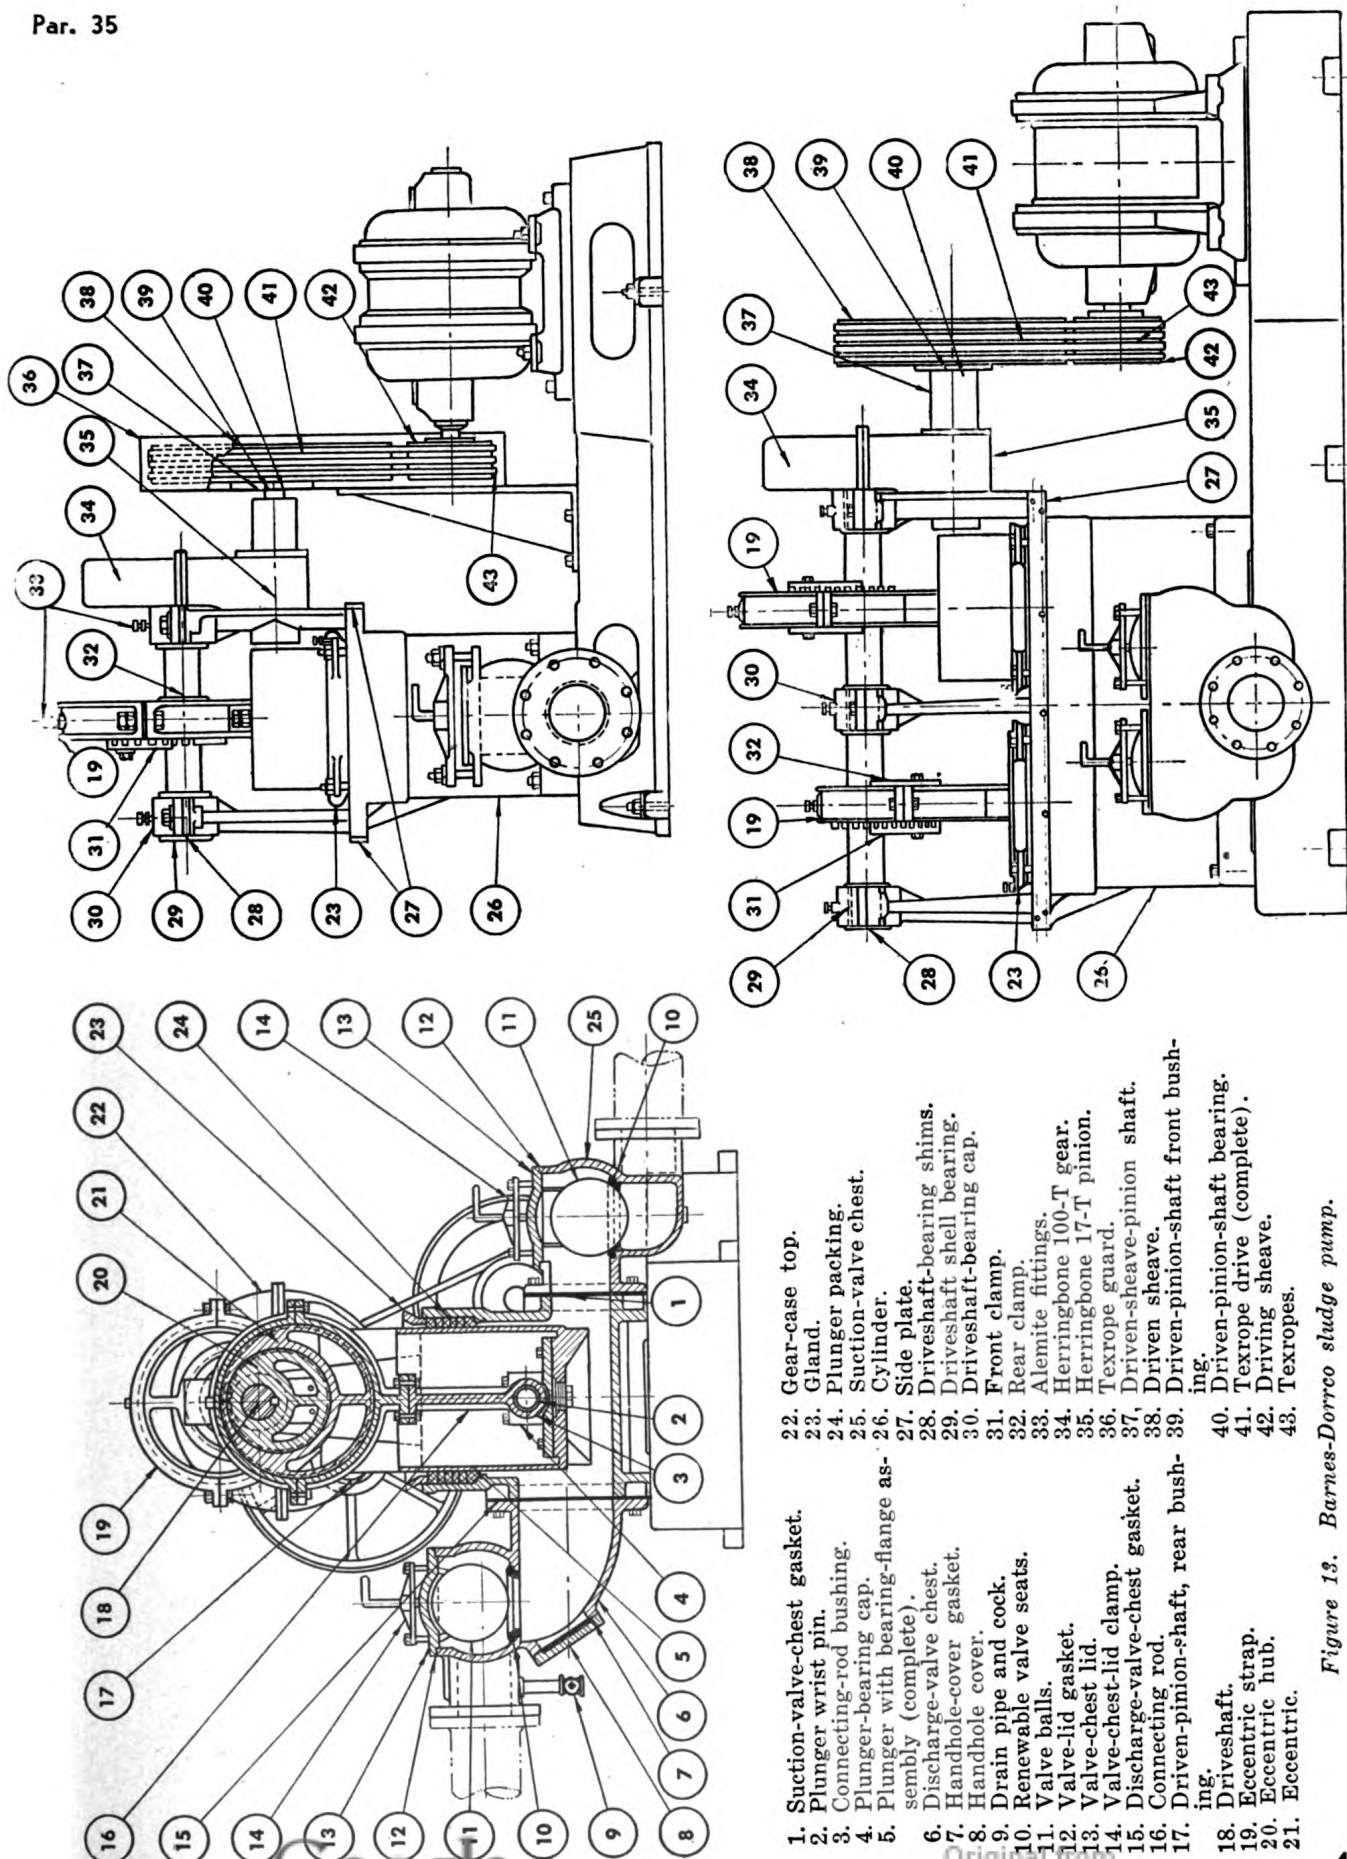

Figure 13. Barnes-Dorco sludge pump.
33. Barnes-Dorrco Type Pumps (fig 13)